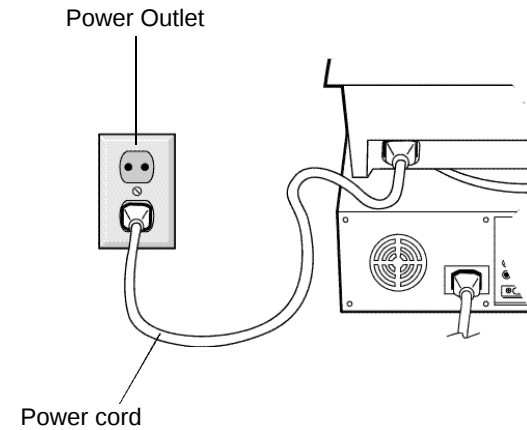

Figure B.1
- 4 Connect one end of the power cord to the monitor and the other end to the power outlet (Figure B.1).